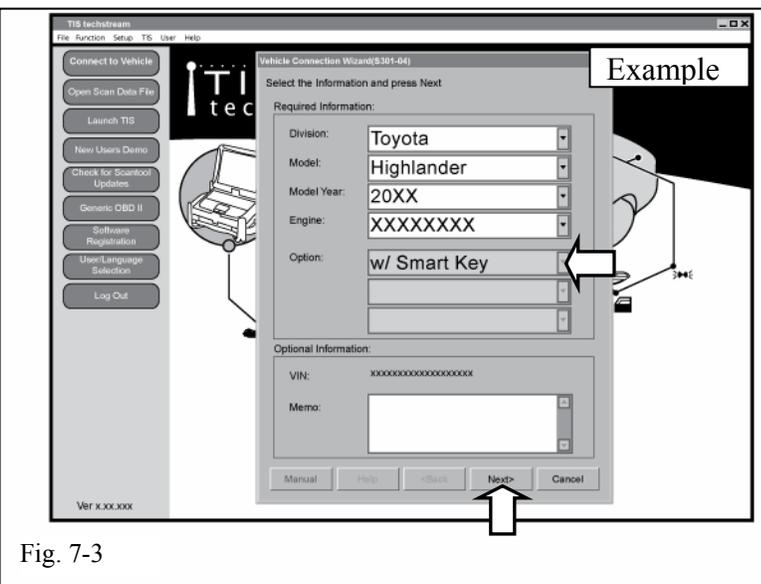

Fig. 7-3
- (f) Confirm that the information displayed on the Vehicle Connection Wizard is correct for the vehicle. If not verify that the Techstream is properly connected. (Fig. 7-3)
- (g) Slect w/smart or wo/smart based on vehicle spec. (Fig. 7-3)
- (h) Click “Next>.” (Fig. 7-3)